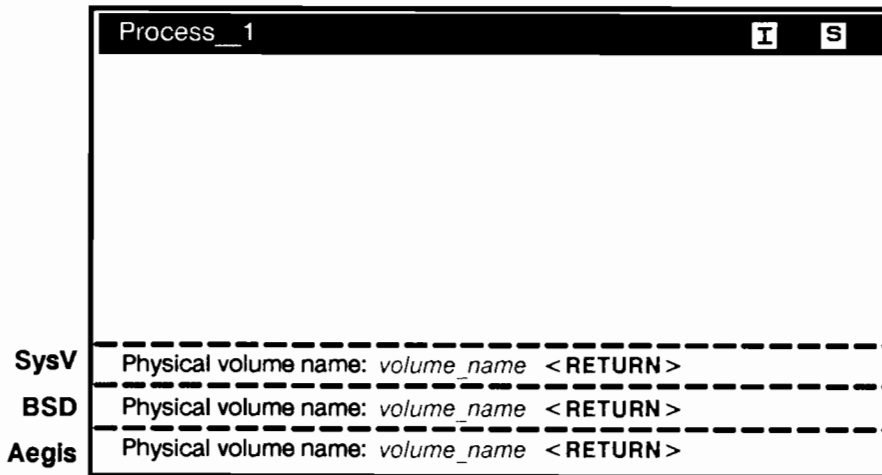

Figure 3-40. *invol* Prompt for Physical Volume Name
7. The **invol** utility then prompts for the name of the physical volume as shown in Figure 3-40.